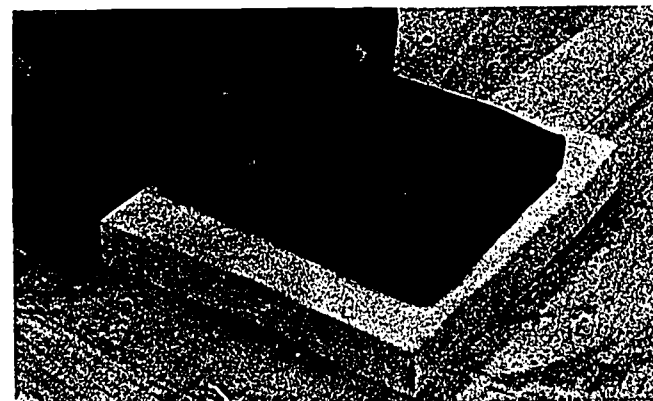

Fig. 2-8. Assembling Slabs
- e. Assembling slabs: Fig. 2-8